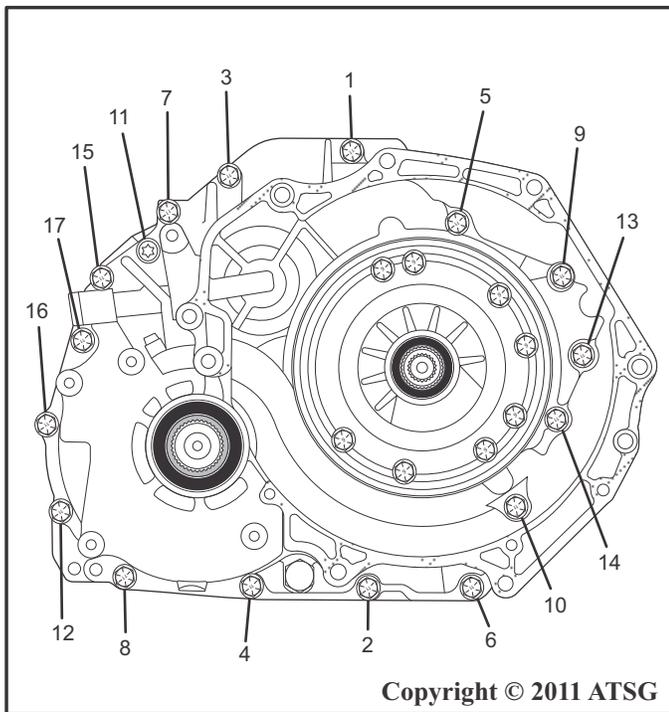

Figure 30
30. Remove the seventeen torque converter housing attaching bolts as shown in Figure 30.